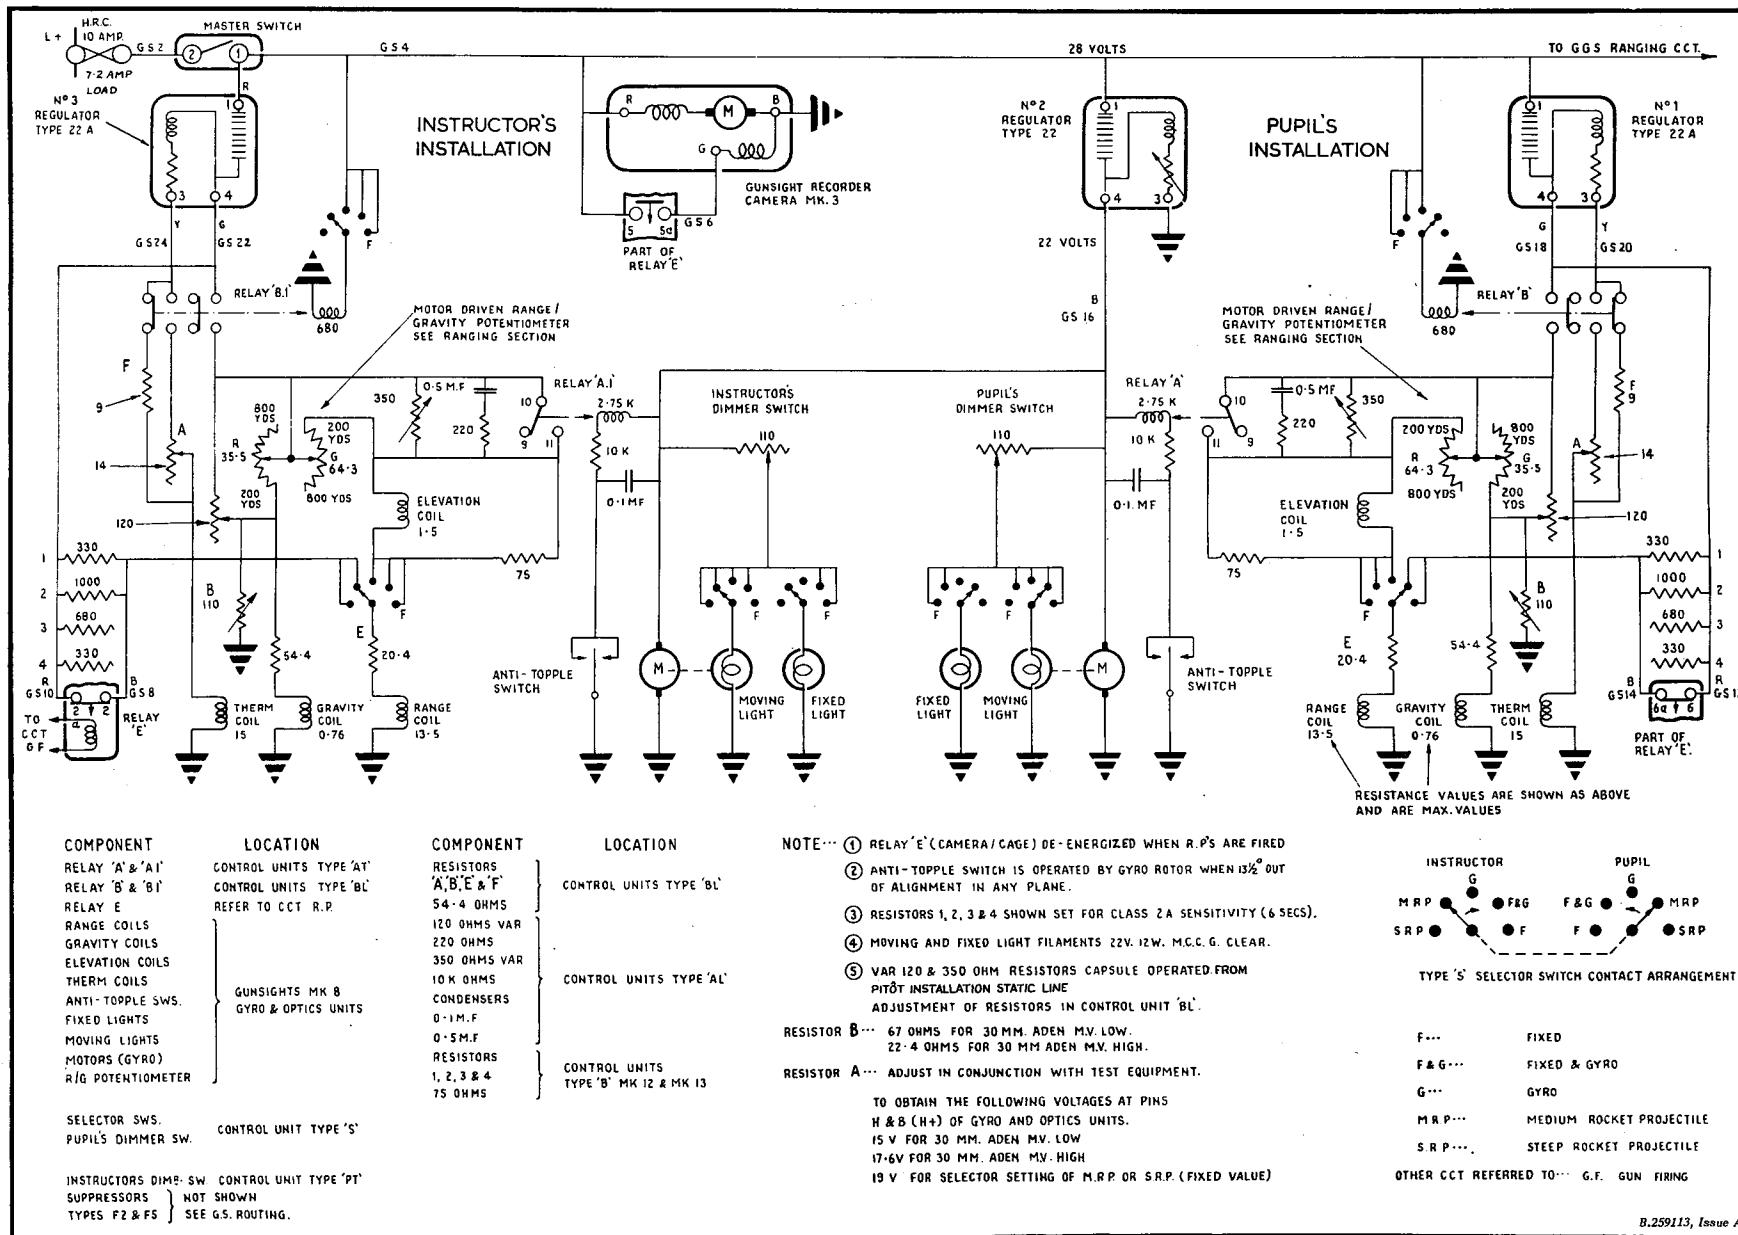
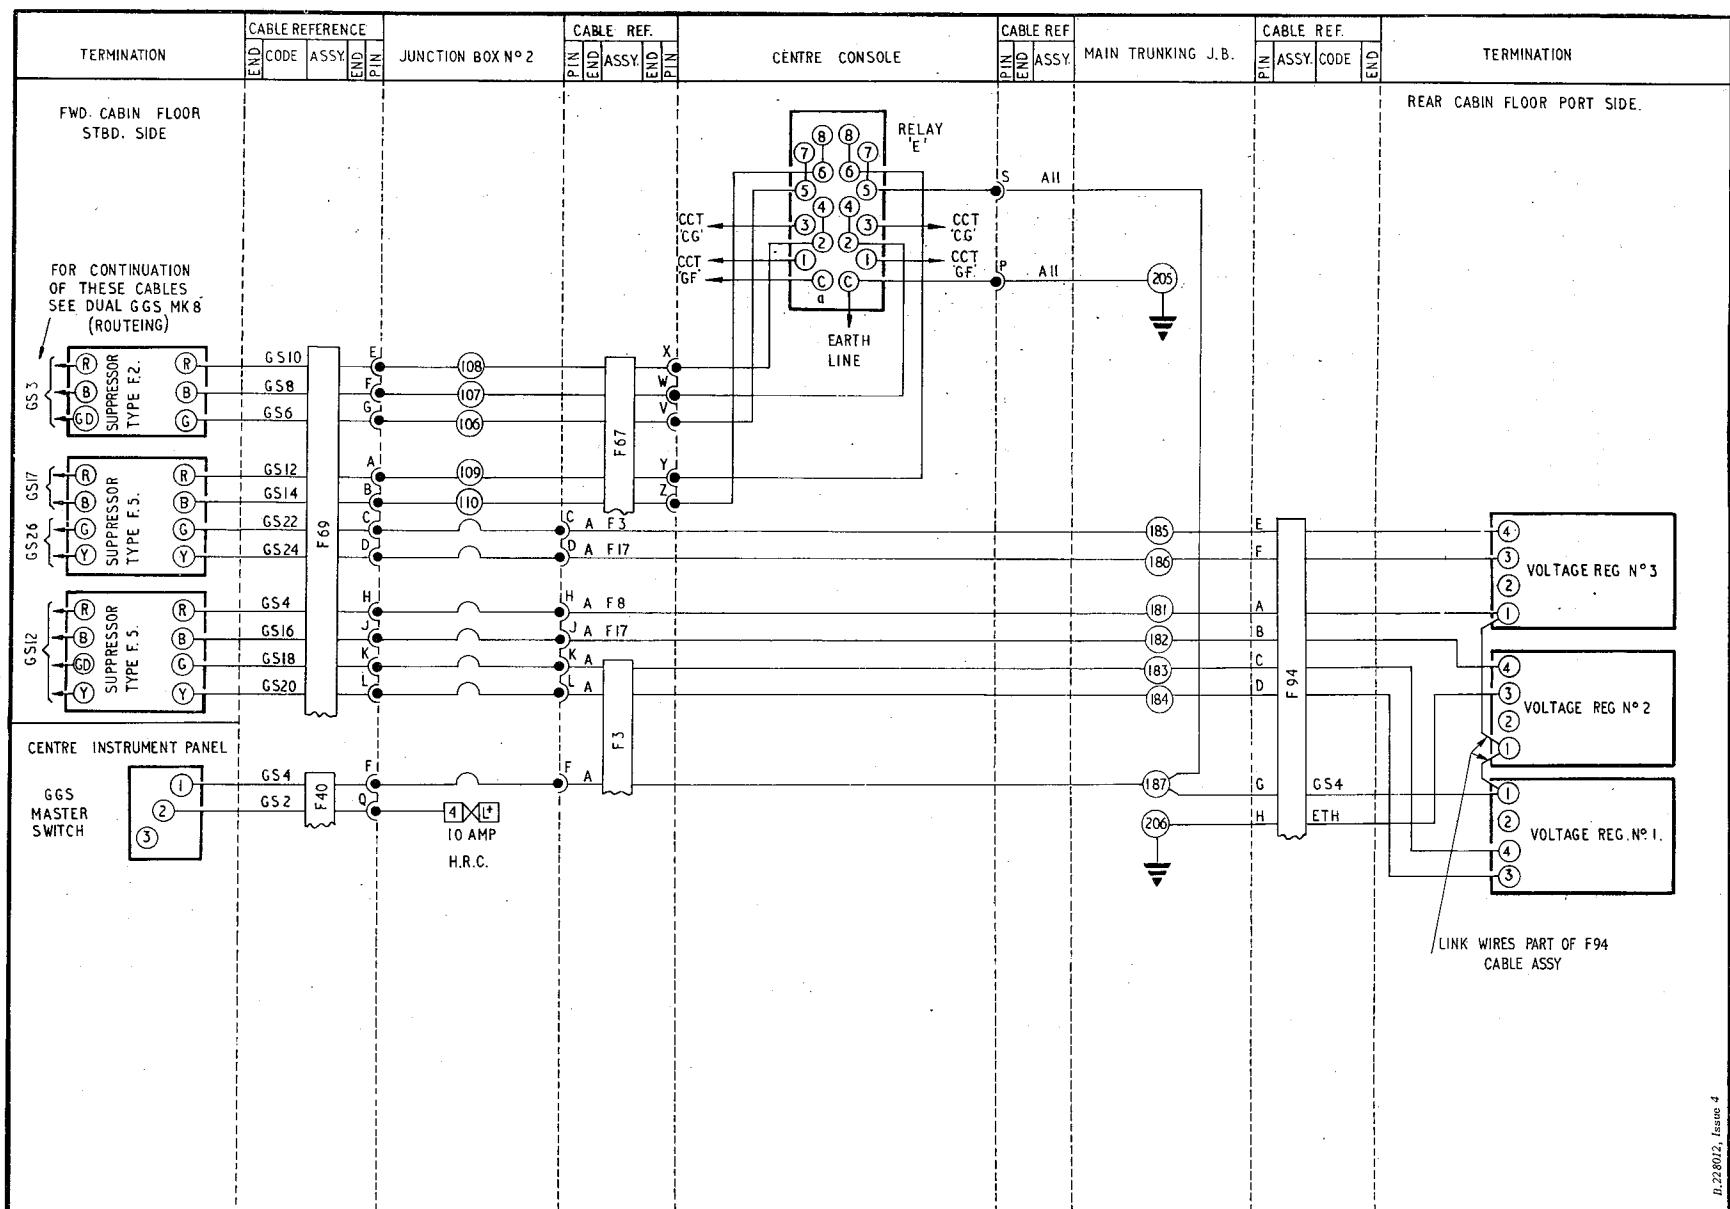
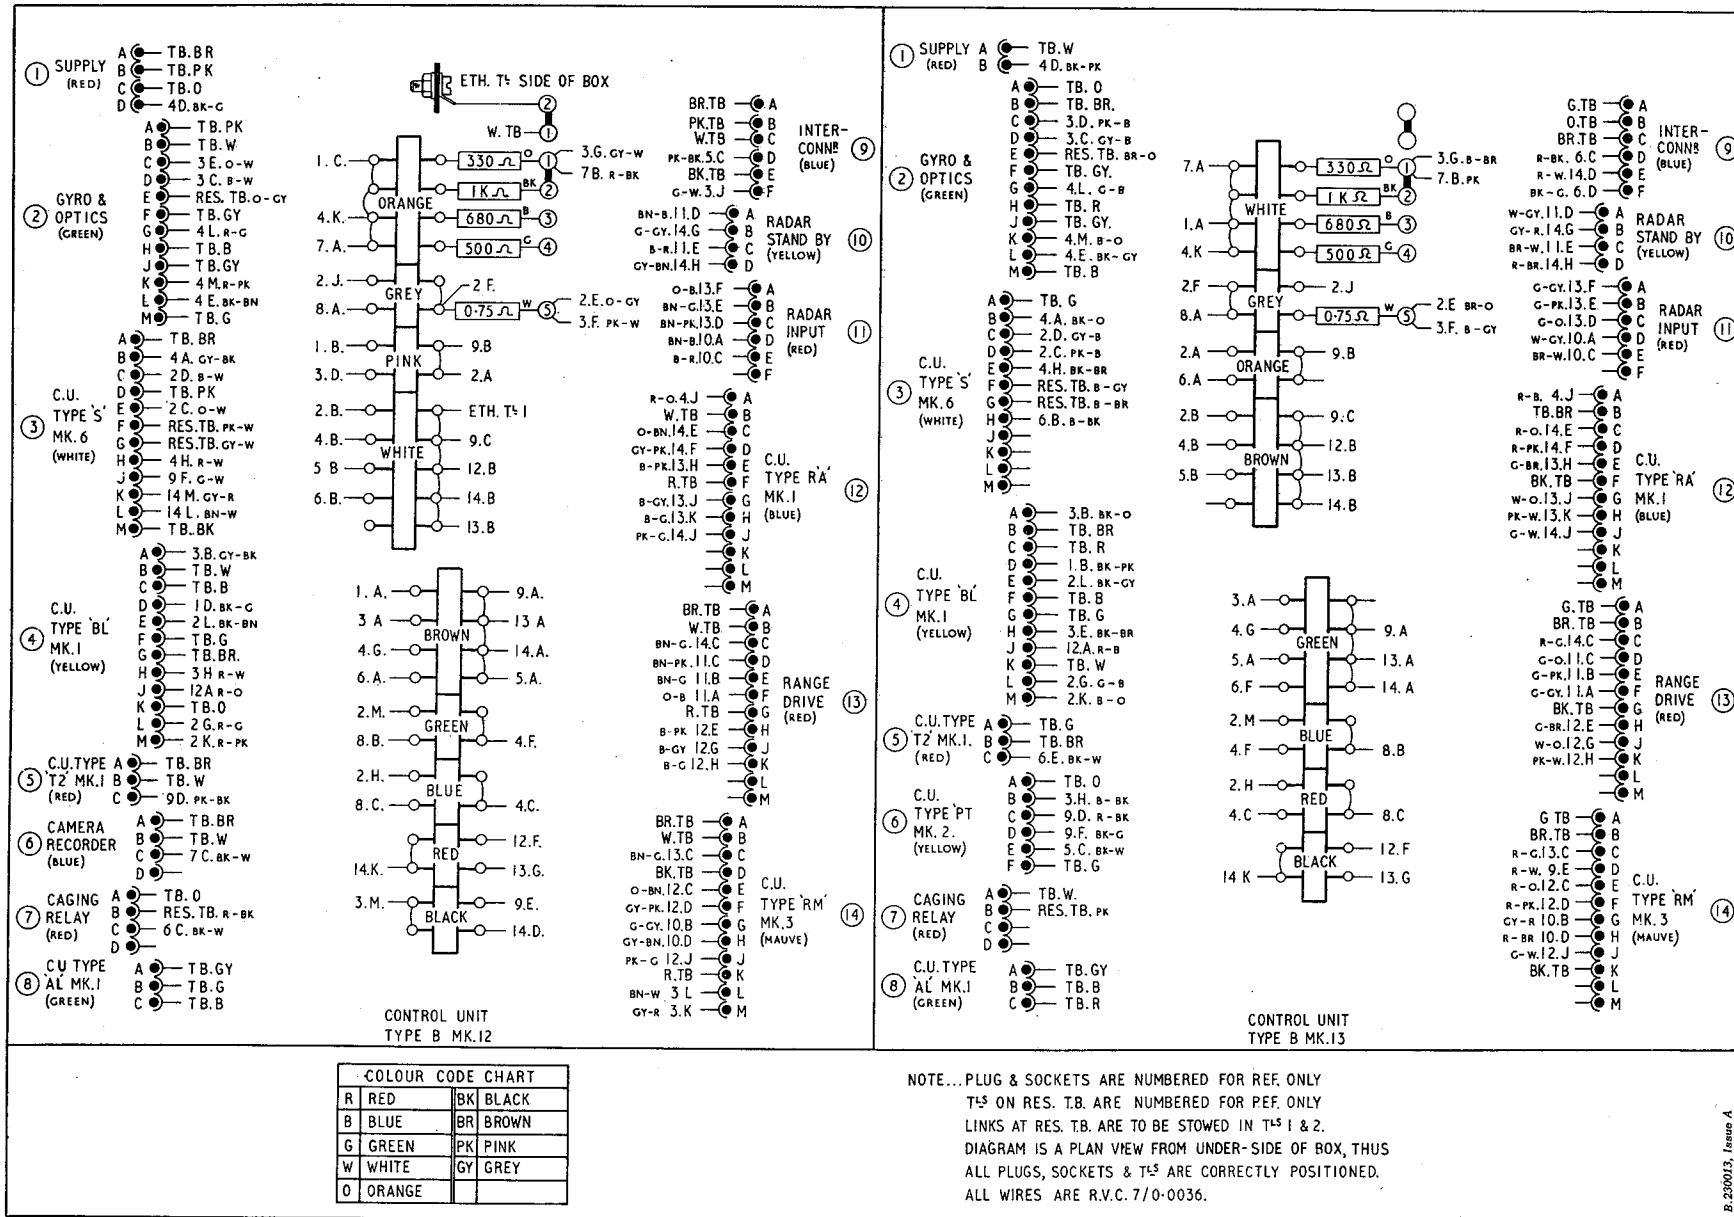

Fig.1. Gyro gun sight and camera recorder (gyro and optics theoretical)
Fig.4. Power supply for gyro gun sight and camera recorder (routing)
Fig.5. Wiring of gyro gun sight junction boxes
10. Theoretical and routeing diagrams of the gun sight and camera recorder installations are given in fig.1, 2 and 3 of this group. A routeing diagram of the electrical power supplies is given in fig.4 and wiring diagrams of the gun sight junction boxes will be found in fig.5. Reference should be made to the Air Publications quoted in Table 1 for a full description of the gun sights, control units and camera recorder, together with the method of operation.